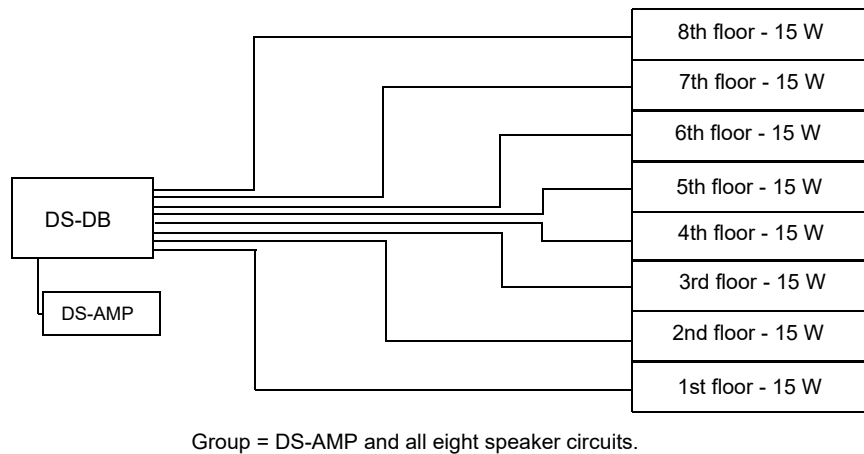

Figure D.4 DS-DB - One Amplifier per Group, All Speaker Circuits
4. Figure D.4 shows a DS-DB with one group. The DS-AMP amplifier is in a group with all eight of the DS-DB's speaker circuits. The load on all eight circuits does not exceed the DS-AMP's capacity of 120 watts. Since the group has one amplifier, capable of broadcasting a single channel, this DS-DB system can broadcast one channel at a time.